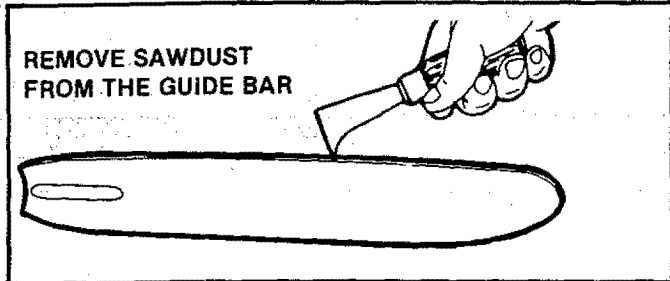

Figure 42
- Remove saw dust from the guide bar groove periodically with a putty knife or a wire. Figure 42.